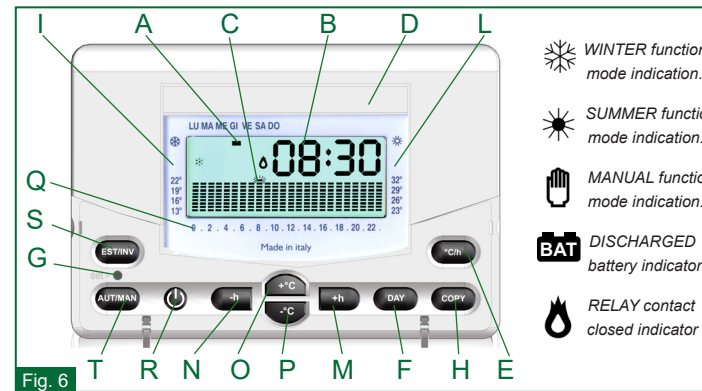

Fig. 6
The segment at the top on the right (A in Fig.6), in correspondence to the overprinted writing indicates the day to which the programme refers. The programmed temperature (B in Fig.6) is visualised at the top on the right whilst programming and is identified by the day flashing and the symbol "C" indicating the °C.
During normal functioning, the hour or the ambient temperature are alternately visualised by pressing the °C/h key (Fig.6).
To modify the programme, move to the desired day using the DAY key (Fig.6) and adjust the daily graphic utilizing the four central keys designed in the shape of a cross. The +h and -h keys (Fig.6) shift the cursor horizontally along the HOUR axis, whilst the +°C and -°C keys (Fig.6) adjust the set temperature.
- Pressing the DAY key (F in Fig.6), the following day is visualized displaying the memorized programme (if the previous programmed day does not exist, the standard graphic is visualized) that can be modified as previously described.
To exit from the COPY function, wait a few seconds without pressing any key. Having finished programming the whole week, update the hour and the day by pressing the SET key using a pointed object (Fig. 6).
The HOUR, MINUTES and DAY can be updated using the SET key (G in Fig.6).
From this moment the Easy 503 chronothermostat starts its normal functioning, indicating each upload inserted (heating or air-conditioning) by the lighting up of the flame symbol on the display (Fig. 6).
Pressing the AUT/MAN key (Fig.6) the chronothermostat goes into manual mode by closing the graphic display (which remains memorized) and lighting up the hand symbol (Fig. 6). Now the Easy 503 chronothermostat behaves like a normal ambient thermostat where the adjustment of the temperature is made by using the +°C and -°C keys (O and P in Fig.6). The set temperature read on the display remains as long as the chronothermostat is in manual mode (press the AUT/MAN key to pass to automatic mode).
The chronothermostat is switched off by pressing the (OFF) key (R in Fig.6) for two seconds. The Easy 503 chronothermostat will deactivate the functions relative to the set programmes, which anyway remain memorized, and will alternately visualize the word OFF with the current hour and the detected temperature. To visualize the HOUR instead of the temperature, press the °C/h key.
If it becomes necessary to cancel the set programme (E.G., after a programming test), simultaneously press the AUT/MAN and COPY keys (T and H in Fig.6) for approximately two seconds. The Easy 503 chronothermostat restarts the initialization procedure described previously.